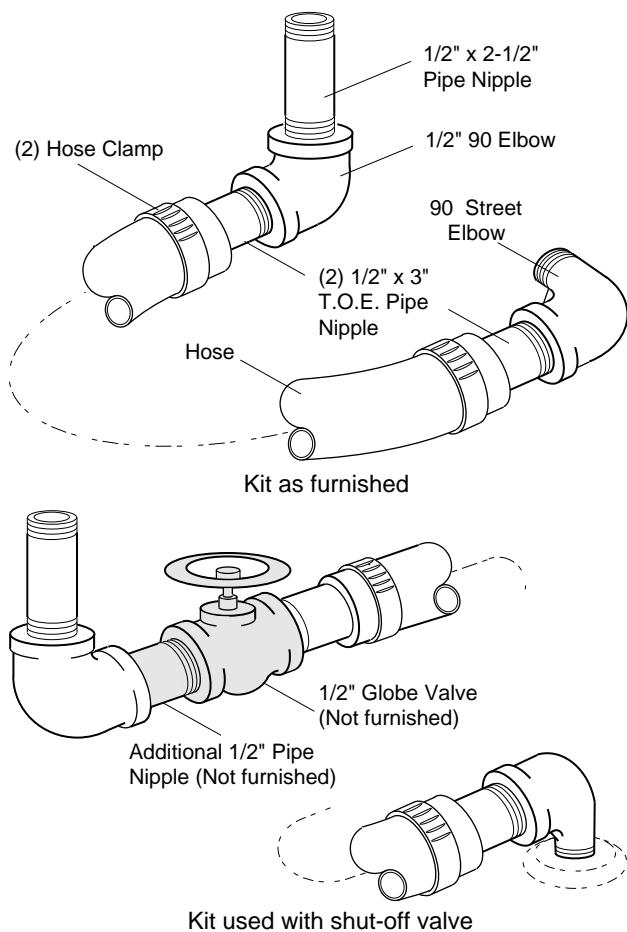

FIGURE 3
1. Assemble remote mounting kit components (See Figure 3). Make sure all connections are tight. Use pipe joint compound sparingly on metal to metal thread connections.